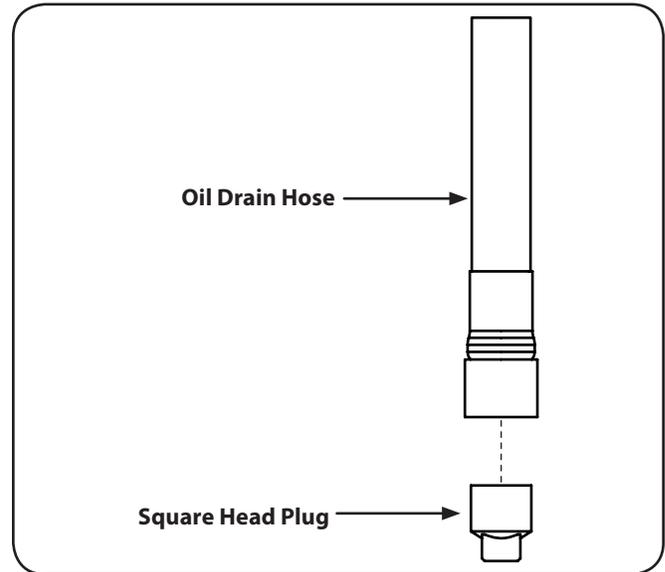

Figure 6-1
4. While holding the free end of the oil drain hose over the oil collection container, unscrew the square head hose plug from the end of the hose. See Figure 6-1. Drain the engine oil into the collection container.